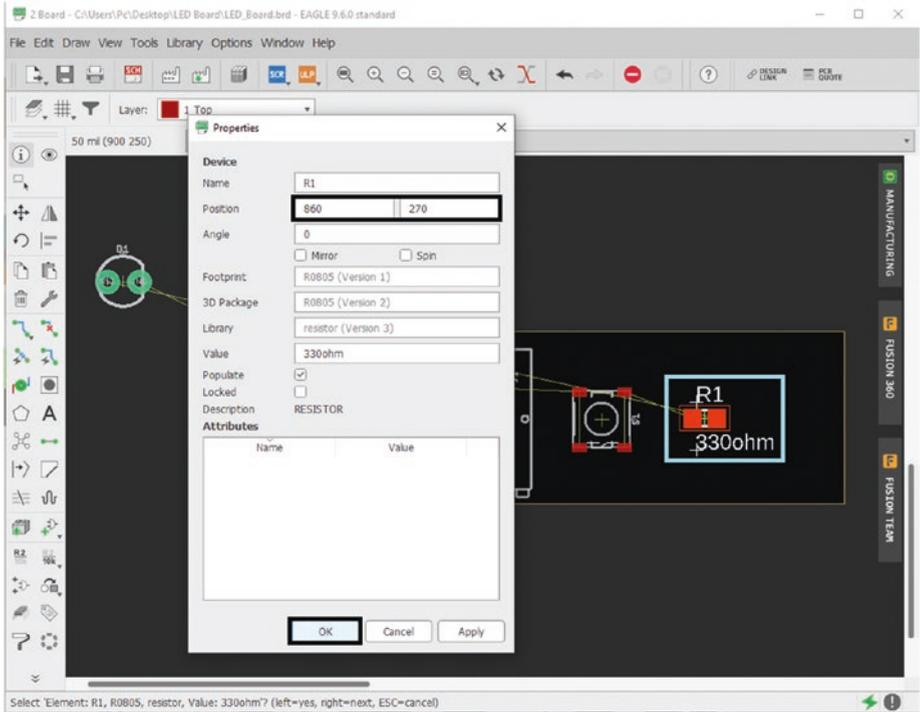

Figure 5-67. Move resistor
- Now add the resistor to the PCB, positioned at “860” and “270.” See Figure 5-67.